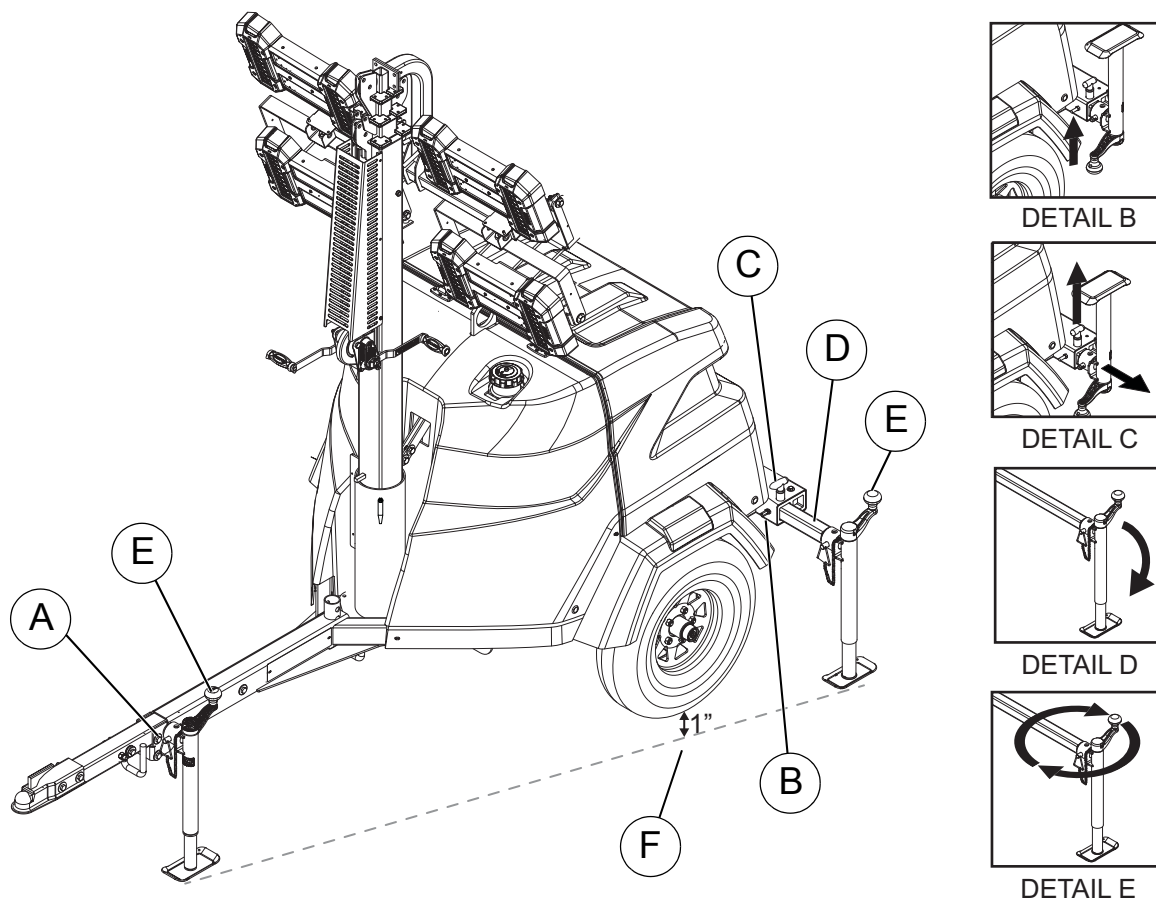

Figure 3-1. Set Up Outriggers and Jacks
2. See Figure 3-1. Place the unit on firm ground that is relatively flat, and then block the wheels to keep it from moving. This will make it easier to level the unit.
3. Pull the locking pin (A) on the tongue jack (E) and rotate the jack 90°. Reinstall the locking pin. Rotate the jack handle clockwise to raise the trailer tongue off the towing vehicle.
4. A grounding stud (B) is located on the rear frame of the trailer near the left side outrigger. For grounding requirements, follow local, state, or National Electrical Code (NEC) guidelines.
5. See Details C—D. Pull the locking pins (C) on the outriggers (D) and pull each outrigger out until the spring loaded locking pin snaps back into place. Pull the locking pin on the outrigger jack and rotate each jack 90° so the jack pad is facing down. Reinstall the locking pin.
6. See Detail E. Rotate each jack handle clockwise to start leveling the trailer. Adjust all three jacks by rotating their handles clockwise until they are firmly in contact with the ground. Continue until the wheels are approximately one inch (2.5 cm) off the ground (F).